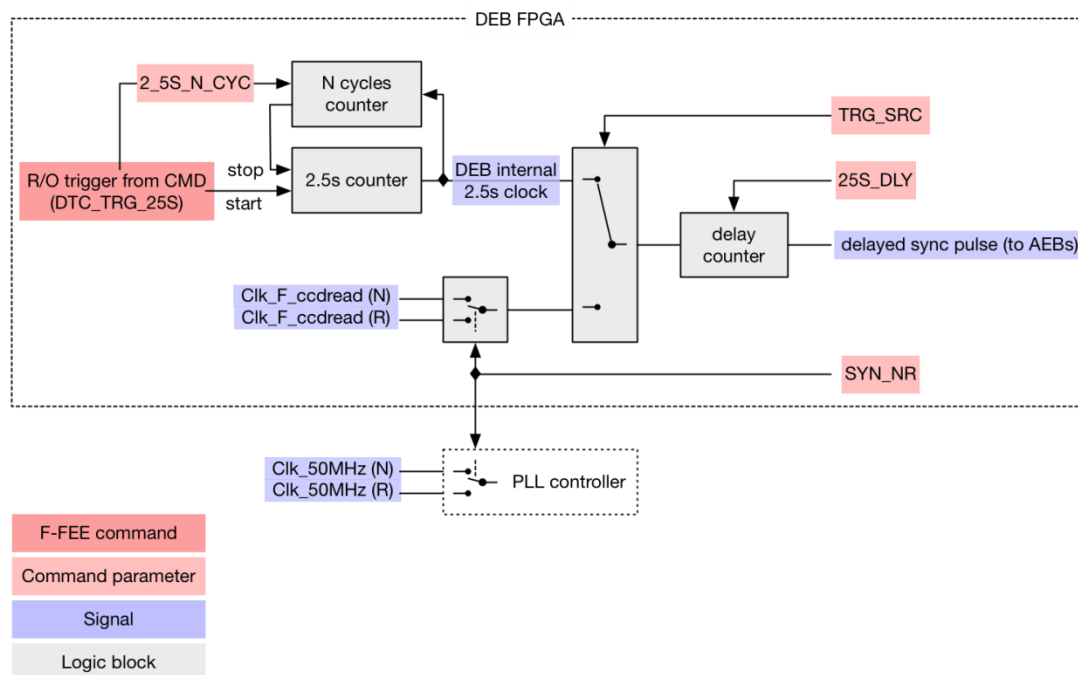

Figure 7-7 - 2.5s sync pulse source selection & generation
This register sets the content of the TRG\_SRC register. The content of this register defines the source for the synchronisation that is transmitted to the AEBs to either external or internal. When set to external the DEB is deriving the AEB synchronisation pulse from the Clk\_F\_ccdread(N) and Clk\_F\_ccdread(R) signals. When set to internal the DEB is driving this pulse from the FPGA-internal 2.5s counter. Refer to Figure 7-7 for an overview of the 2.5s synchronisation pulse selection and generation.
This register sets the content is the SYN\_NR register. As shown in Figure 7-7 the content of this register selects the external synchronisation signal source either to Clk\_F\_ccdread(N) or Clk\_F\_ccdread(R).
This register sets the content of the 25S\_DLY register. The content of this register defines the delay that as to be added to the input synchronisation pulse before transmission to the AEBs. Refer to Figure 7-7 for an overview of the 2.5s synchronisation pulse selection and generation. According to the diagram, the delay is effective whatever the source of 2.5s synchronisation signal.